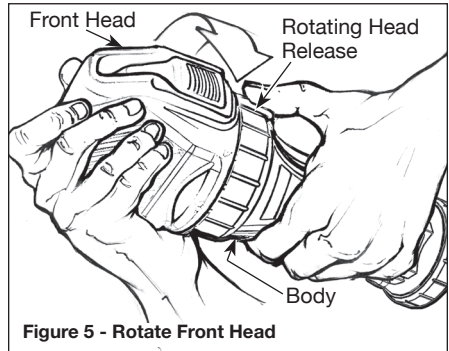

Figure 5 - Rotate Front Head
2. While holding tool with one hand, use your thumb to pull back the locking trigger. With other hand rotate the front head. Use the alignment arrows on tool to center with locking pin. See Figure 5.